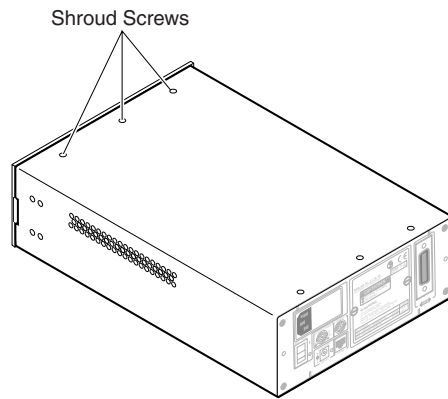

Figure 3-7. Top Front Shroud Screws
- 4 Use a #1 Phillips screwdriver to remove the three 4-40 x 3/16-inch countersunk shroud screws from the top of the Counter near the front edge of the shroud (see Figure 3-7).